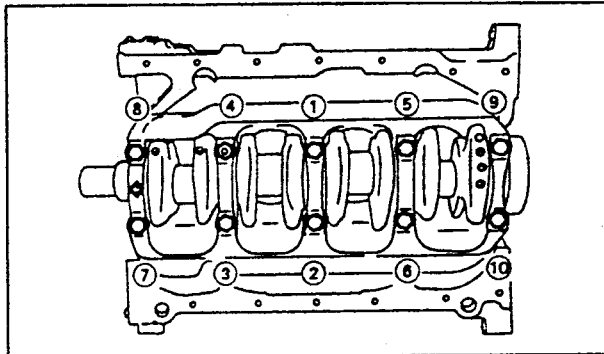

Fig. 1.46 — The arrow in the one-piece bearing cover must be located at the front end of the crankshaft.
The one-piece bearing cover has an arrow at the position shown in Fig. 1.46. The following points should be noted during installation:
- Commencing at the centre of the bearing cover and in the numbered order shown in Fig. 1.46, tighten the bolts to 2.5 kgm (18 ft.lb.).
- Tighten all bolts in the sequence given in Fig. 1.46 by a further 90° (¼ of a turn). To this, fit the socket extension over the bolt and insert the tommy bar either at right angle to the crankcase or parallel with the crankcase. Then move the tommy bar by a quarter of a turn and a little more. *The following points must be observed when the main bearing bolts are tightened:*